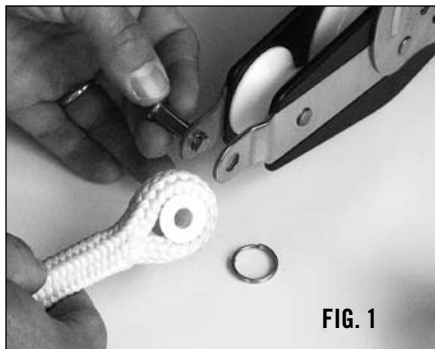

FIG. 1
1. (FIG. 1) Insert the small bushing into the rope eye, attach bushing to block using pin and secure using split ring.